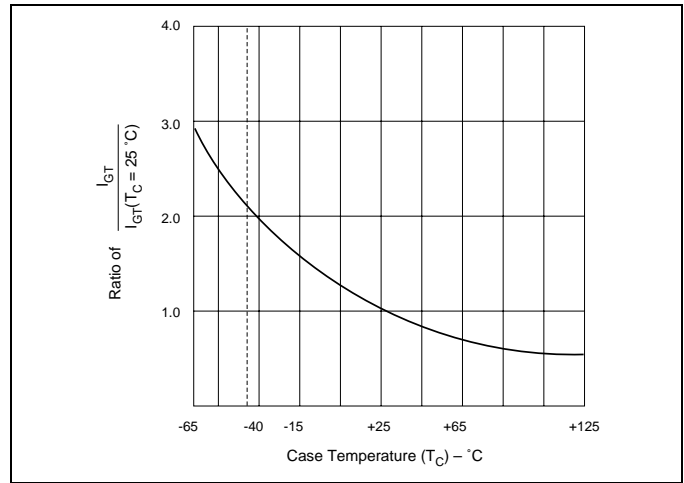

Figure E2.11 Normalized DC Gate Trigger Current for All Quadrants versus Case Temperature
- (7) See Figure E2.11 for IGT versus TC.